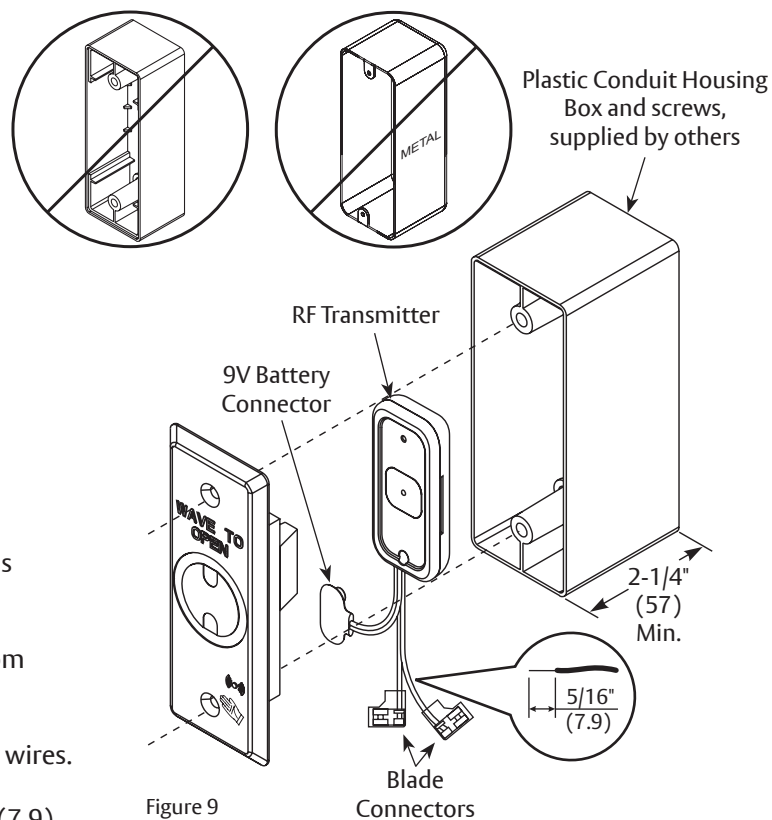
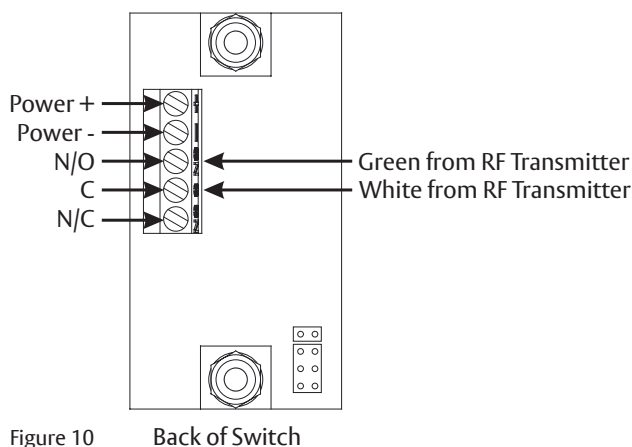

Figure 9
Figure 10
- A plastic 2-1/4" (57) deep minimum surface mounted box, supplied by others, is necessary. **DO NOT** use conduit housing supplied with switch. (Fig 9)
3. Strip sheath from each wire end exposing 5/16" (7.9) to prepare wires for connection. (Fig 9)
4. Wire RF Transmitter to Switch (Fig 10):
- Green wire to Normally Open (NO)
- White wire to Common (C).
5. Install 9V Battery to female battery connector. (Fig 9)